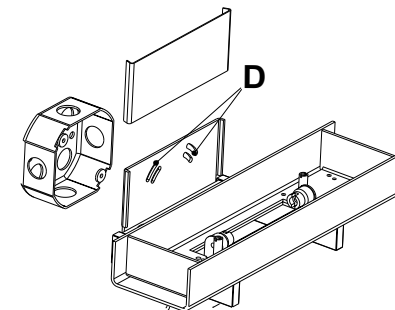

FIG.3
5. Install the glass diffuser "E" to the fixture body "B" and secure it with screw "F".FIG.3
6. Install the light bulb (s). FIG. 3